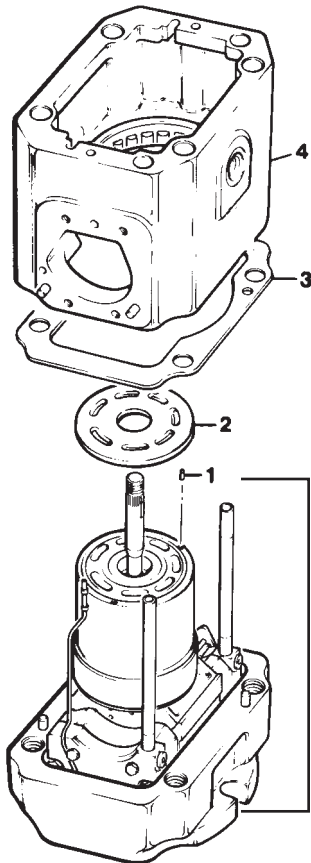

Figure 6
See figure 6. Insert the three face plate pins (1) in the holes provided in the barrel face.
**PARTS LIST FOR FIGURE 6**